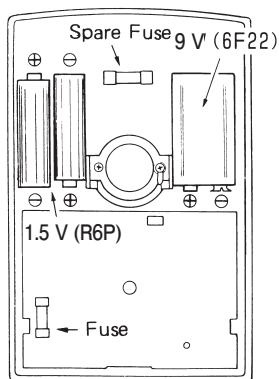

Fig. 16
2. When the fuse is blown, the tester fails to work. Replace it with the spare fuse (5 mm dia \times 20 mm, 500 mA/250 V). Refer to Fig. 16 for its position.